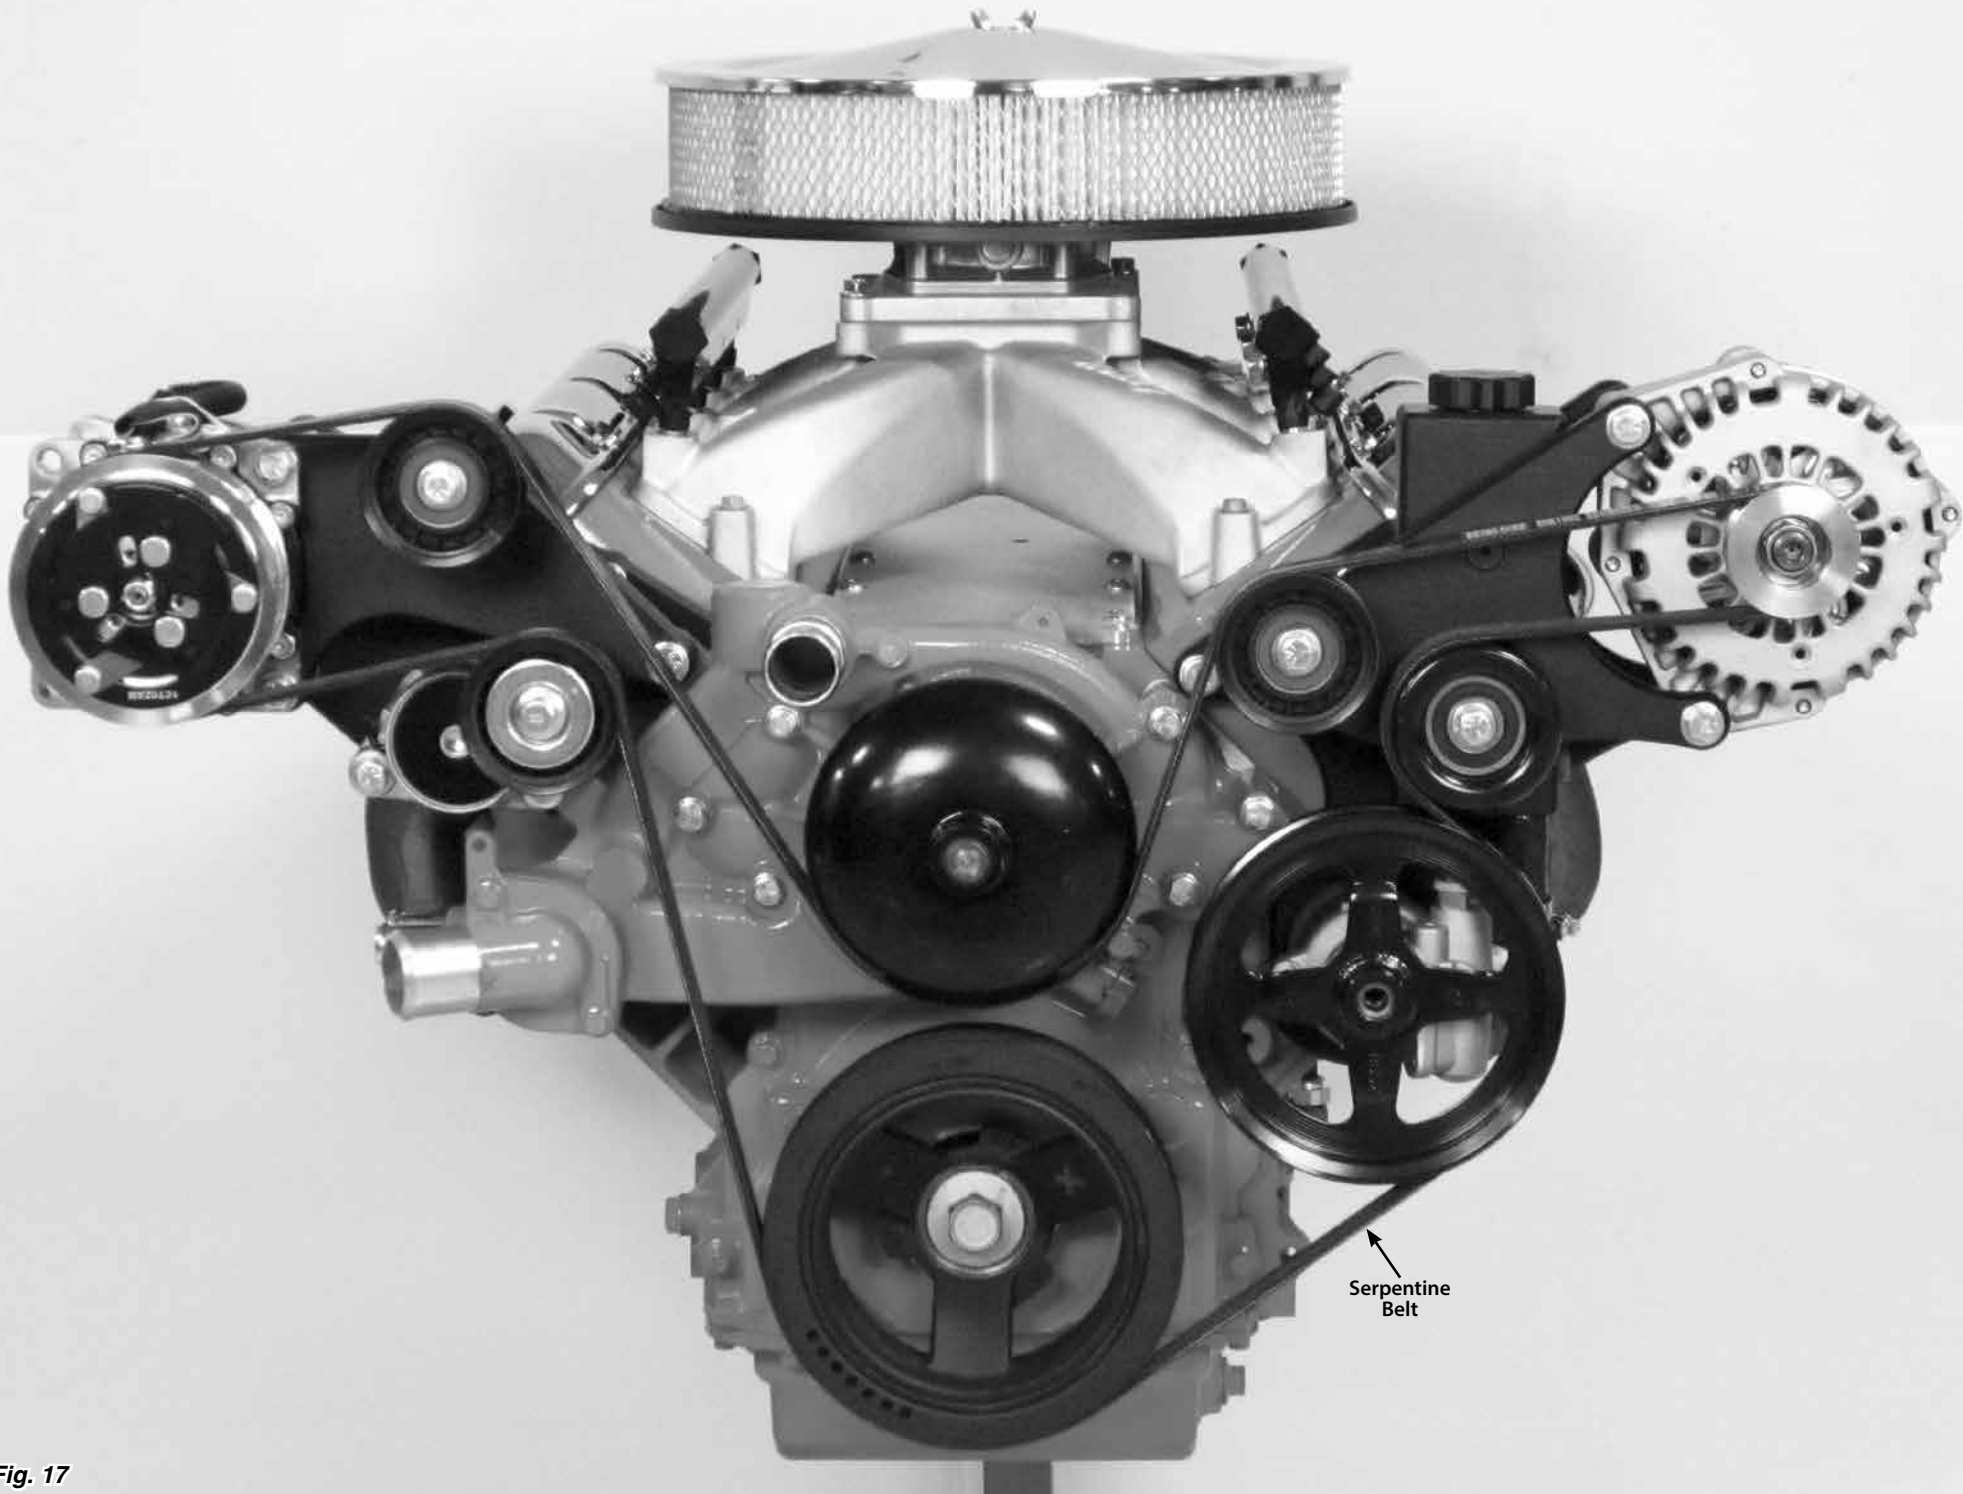

Fig. 17
Step 15: Route the serpentine belt as shown in **Fig. 17**. If the engine is out of the vehicle, it will be easiest to leave the water pump pulley for last. Place a wrench on the tensioner pulley bolt, and apply clockwise pressure to move the tensioner pulley downward as you slide the belt around the final pulley.